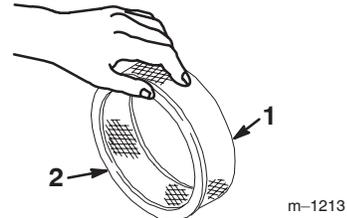

Figure 29
- Lightly tap the paper filter on a flat surface to remove dust and dirt (Fig. 29).